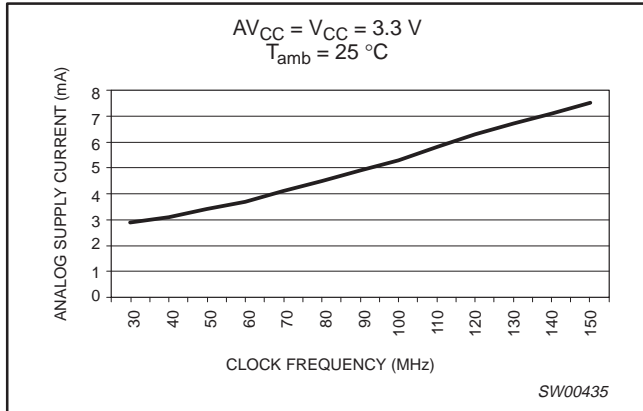

Figure 1. Analog supply current vs. clock frequency
- For  $I_{CCA}$  and  $I_{CC}$  vs. Frequency, see Figures 1 and 2.